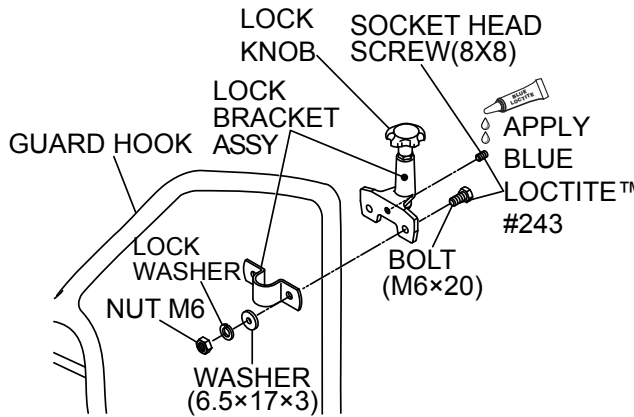

Figure 5. Lock Bracket Installation
1. Attach the lock bracket assembly (items 21 and 23) to the rear of the guard hook, using bolts (item 25), washers (items 24 and 26) and socket head screw (item 22). See Figure 5.